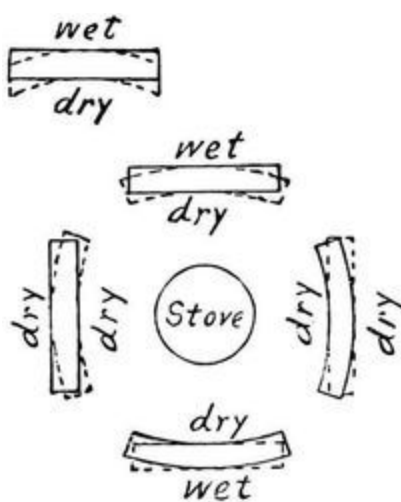

FIG. 687.
Warping, To Remove.—Of course the simplest way to straighten a warped board is to put a weight on it, but the difficulty here is that it usually will stay straight only while the weight is on it, unless you leave it longer than the patience of the average amateur lasts. To do this (or to warp a straight board either) with some chance of success, (1) heat one side, or (2) wet one side, or (3) wet one side and heat the other, or (4) wet both sides and expose one to the fire (Fig. 687). But do not be too sure that the result will be lasting. Sometimes it will and sometimes not. Another way is to thoroughly soak the board, press it into shape between clamps or under a weight, and leave it until dry; a week or more is none too long, and boiling water is better than cold. Simply laying a board down on a flat surface will often cause it to warp, because the two sides of the board will be unequally exposed to the action of the atmosphere. Planing off one side only, or planing one side more than the other, often produces the same effect. See pages 50-53 and Appendix.